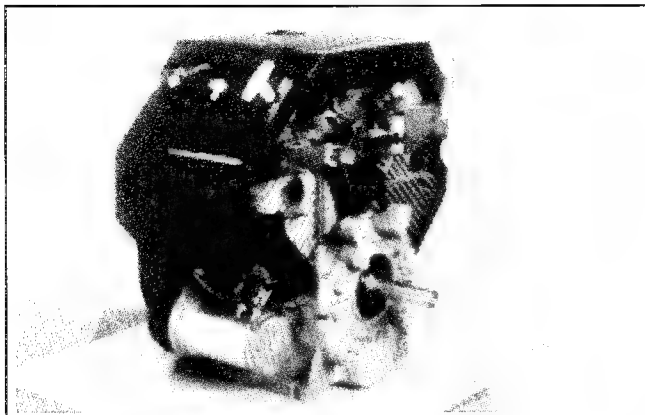

Figure 6-2. Location of Dipstick and Oil Drain Plug (Starter Side).
3. Remove the dipstick; wipe oil off. Reinsert the dipstick into the tube until fully seated. See Figure 6-2.